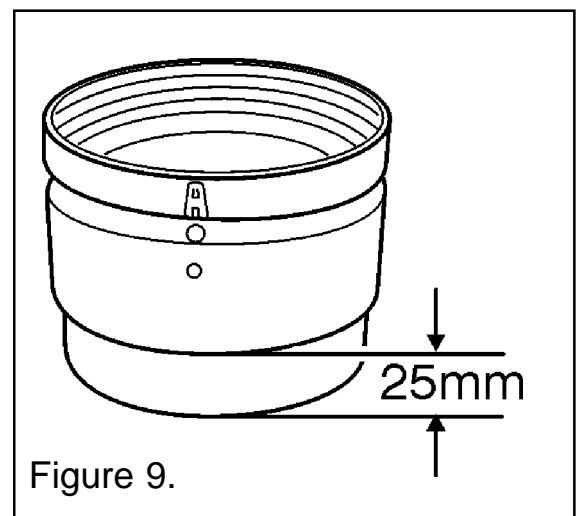

Figure 9.
- The spigot is designed to be compatible with a selkirk 5 SIL - DH draft hood connector. The inner sleeve will require reducing in length so that it protrudes 25mm below the outer sleeve (See figure 9).